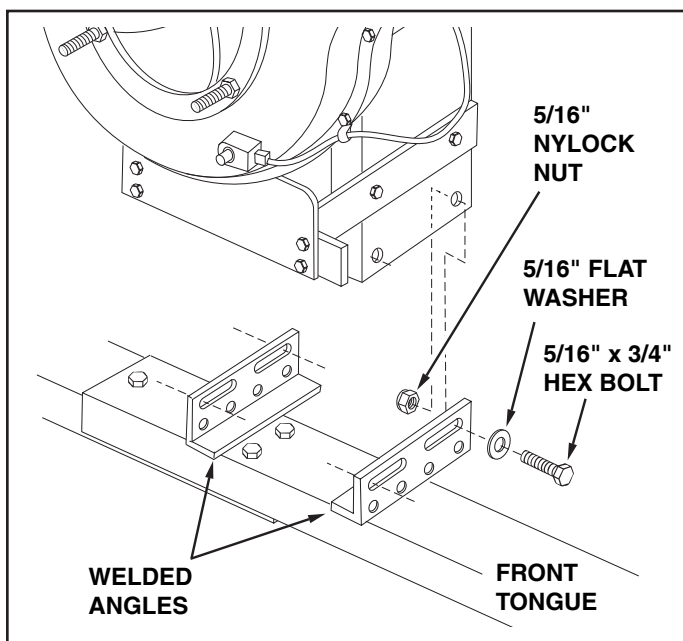

FIGURE 16
28. Attach the engine/impeller housing assembly to the **upper** slots in the angles welded to the tongue. Use four 5/16" x 3/4" hex bolts, 5/16" flat washers and 5/16" nylock nuts. Washers go between bolt heads and slots in welded angles. **Tighten**. See figure 16.
- b. Loosen by approximately 1/2 turn each, the four bolts that you assembled in figure 16.